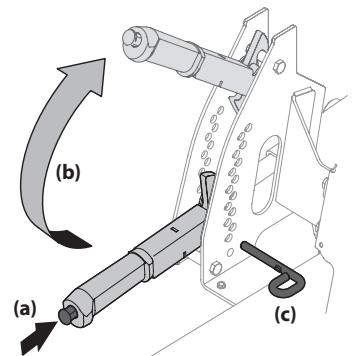

Figure 14
1. Depress the button at the end of the deck lift lever (a), raise it into the transport/highest mowing position, hang the top hook from the upper spacer on the deck height index bracket (b) and then remove the pin (c). See Figure 14.